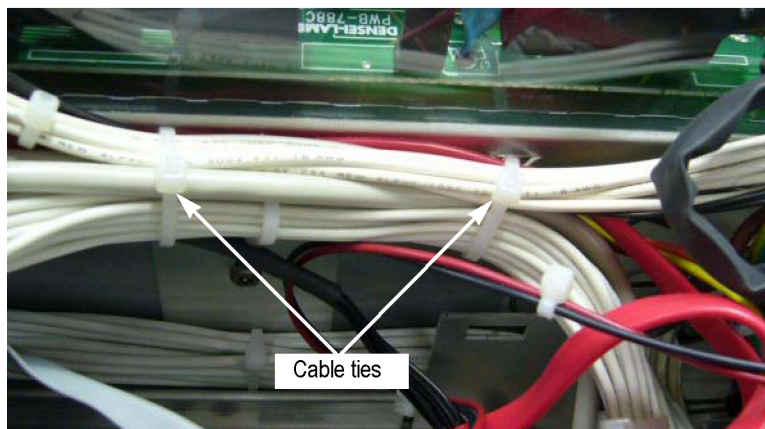

Figure 19: Location of the cable ties
4. Use a wire cutter to remove the two cable ties. (See Figure 19.)